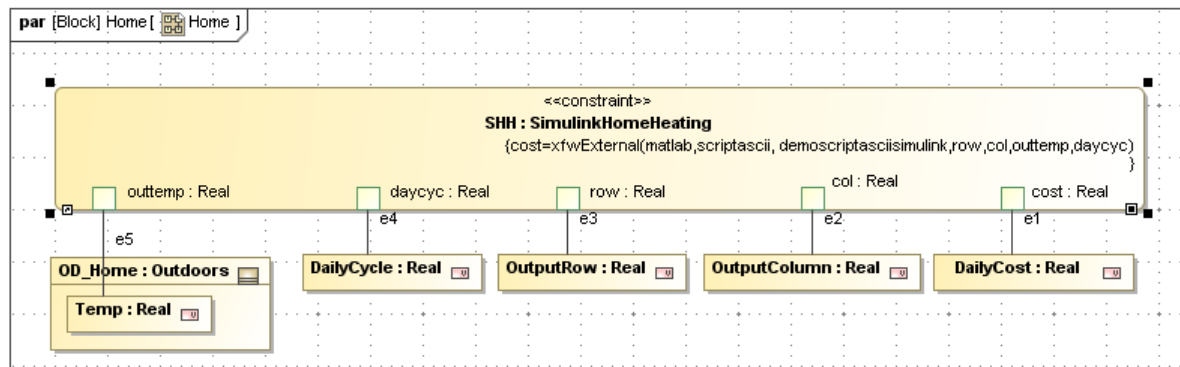

Figure 7.4 Parametric diagram for Home
8. Create the parametric diagram shown in Figure 7.4 inside the block **Home**. The constraint block contains the MATLAB script *demoscRIPTasciisimulink*, which launches the Simulink model *s234sldemo_househeat_SE.mdl*. Note that the value **Temp** calculated by the MATLAB function *annualcycle* is one of the inputs to the Simulink model.